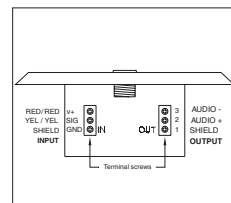
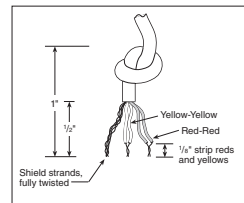

Figure 3
Figure 4
- b. If RFI immunity is not required, the TA3M-type connector on the plate can be removed and discarded (save the back nut and washer). Assemble the included plastic ferrule into the hole left from the TA3M-type connector, using the washer and nut from the connector to secure the ferrule. Cut the cable to the desired length plus a few inches. Thread the cable through the ferrule and tie a knot in the cable behind the ferrule to secure it. Carefully strip the ends of the cable and connect the wires to the terminals formerly occupied by the TA3M-type connector. Maintain color coding (Shield - S, Yellow - Y, Red - R) and connect the microphone wires to the appropriate terminal screws. (Fig. 3) **NOTE:** The cable has two red wires and two yellow wires. Twist the two red wires together and the two yellow wires together. (Fig. 4)